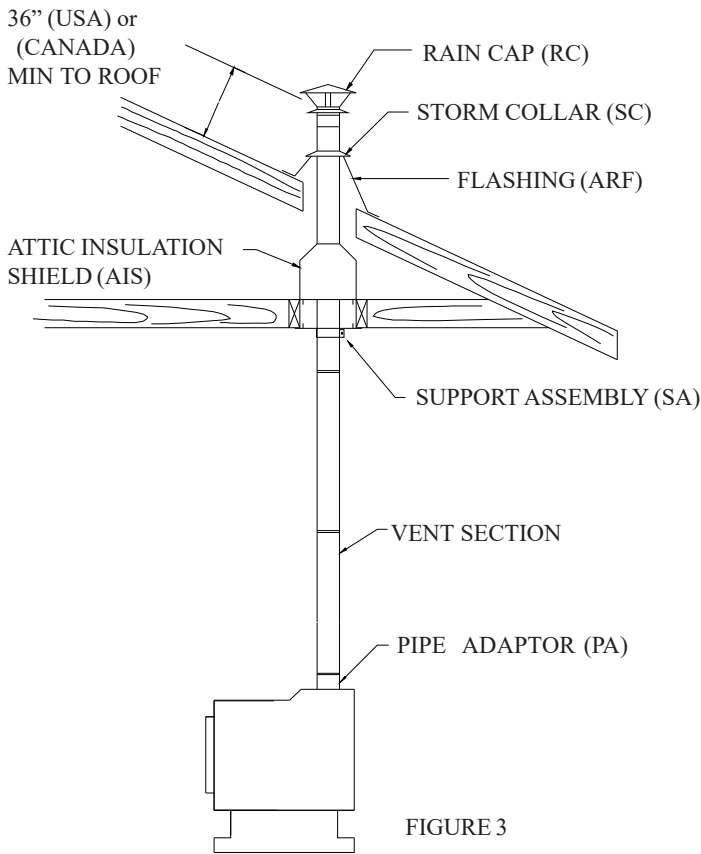

FIGURE 3
14. The rain cap of a vertical (through the roof) installation must be at least 900mm (36") above the roof line when installed in the US and in Canada. See Figure 3.
1.8 Alternatively, a SUPPORT ASSEMBLY (SA) may be used in place of the BCS. The SUPPORT ASSEMBLY fits into the ceiling opening from below and is fastened to joists with 4 x 1.5" spiral nails or screws (see Figure 3).
1.17 Set the RAIN CAP onto the top VENT section and twist lock it to the top VENT section (see Figure 3).